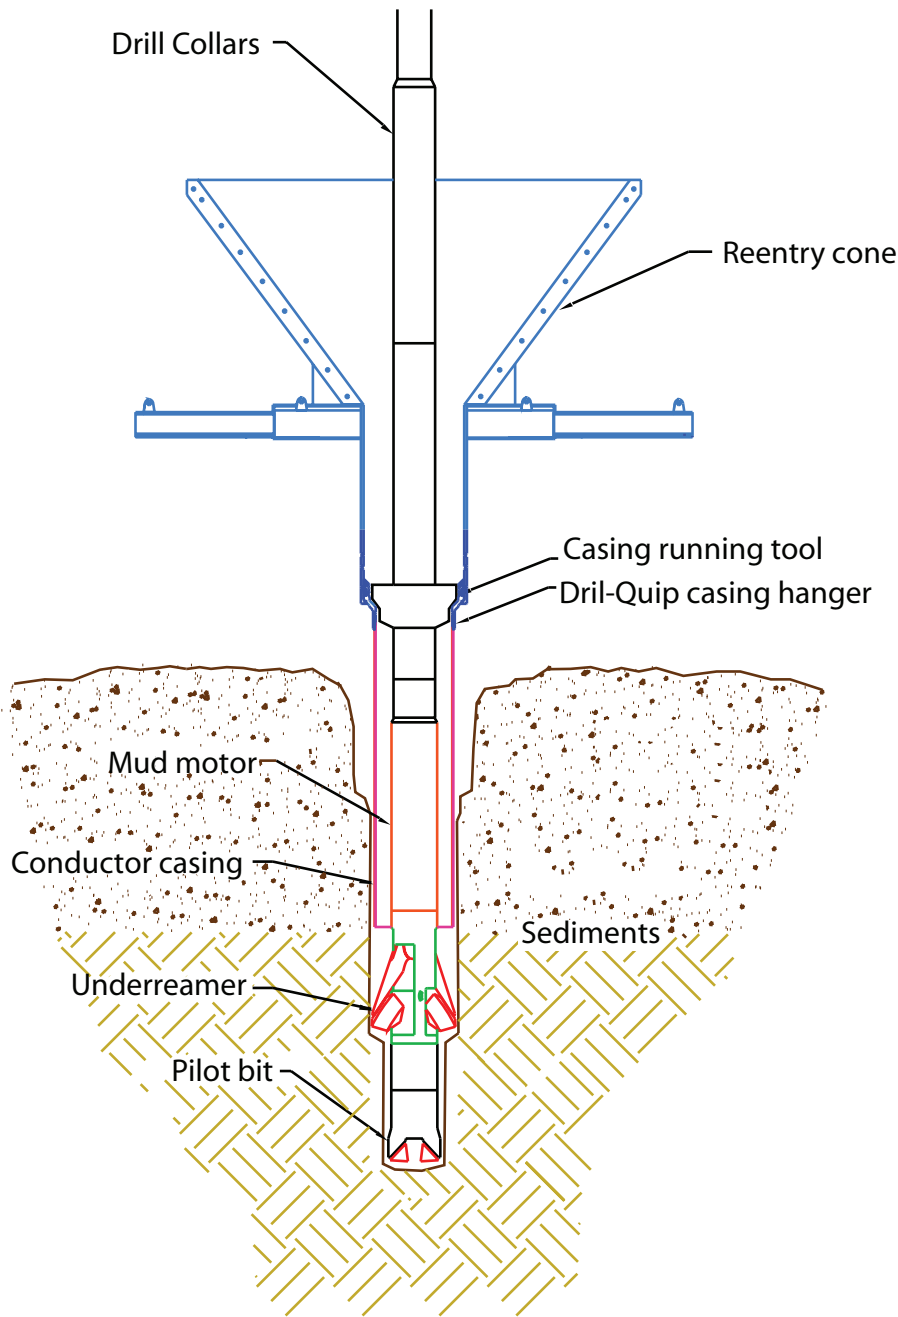

Figure 4. Underreaming ahead of conductor casing in unstable sediment cover to set reentry cone.
formation type and the casing sizes. Both tools can be used (1) to enlarge an existing hole, (2) as a precautionary tool to reopen an enlarged hole if it has closed, and (3) to drill a new hole. More rarely, these tools can be used to “drill-in casing.” The term drill-in casing refers to running a mud motor (see Section III) inside the casing to rotate one of these tools as a precaution to ensure the hole is open ahead of the casing (Fig. 3) or (rarely) to drill and run casing simultaneously (Fig. 4).